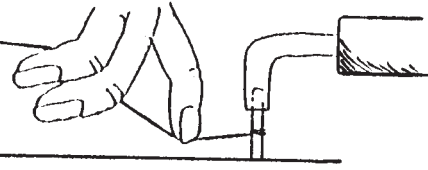

FIG. 15D
D. Turn the tuning key with one hand to finish winding up the slack as you hold the excess wire with your other hand. Guide the windings up the tuning pin and try to keep them close to each other. Don't over-tighten the string - you may break it. Just take up the slack so the string is taut. (fig. 15D)